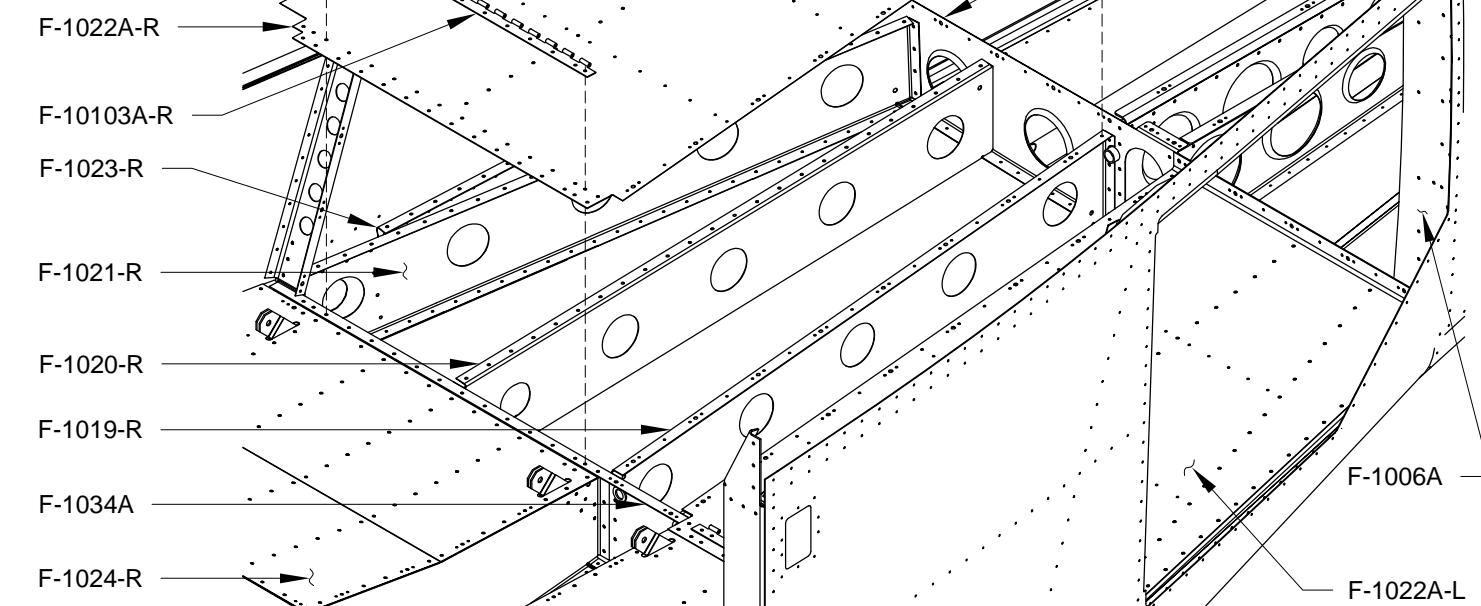

FIGURE 3: CLECOING THE BAGGAGE FLOORS
Step 7: Cleco the F-1022A-L and -R Baggage Floors to the F-1006B Bulkhead, the F-1023-L and -R Baggage Floor Angles, the F-1019,-1020, and -1021 Baggage Ribs, and the F-1024-L and -R Seat Floors as shown in Figure 3.